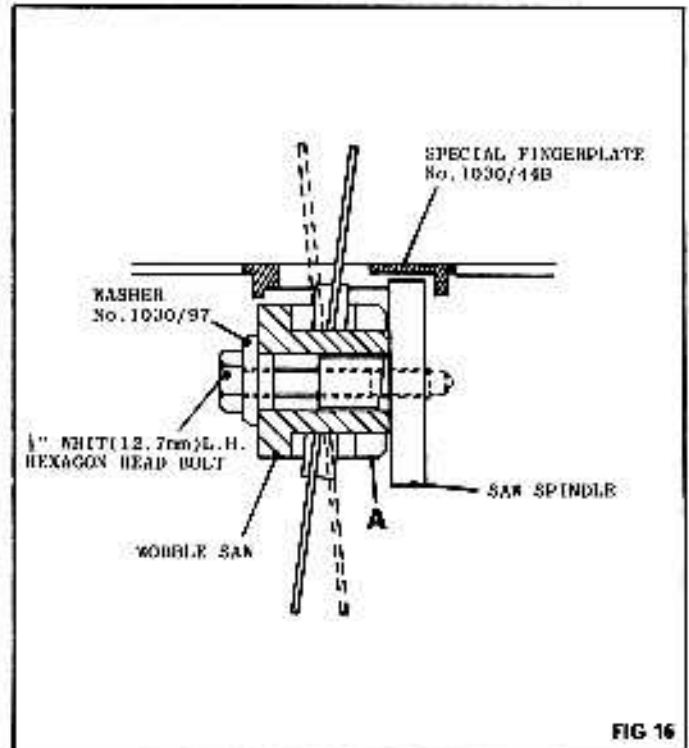

FIG 16
3. Fit wobble saw to saw spindle as shown in FIG.16, and secure to saw spindle by means of the 1/2" whit, left hand thread hexagon head bolt supplied.